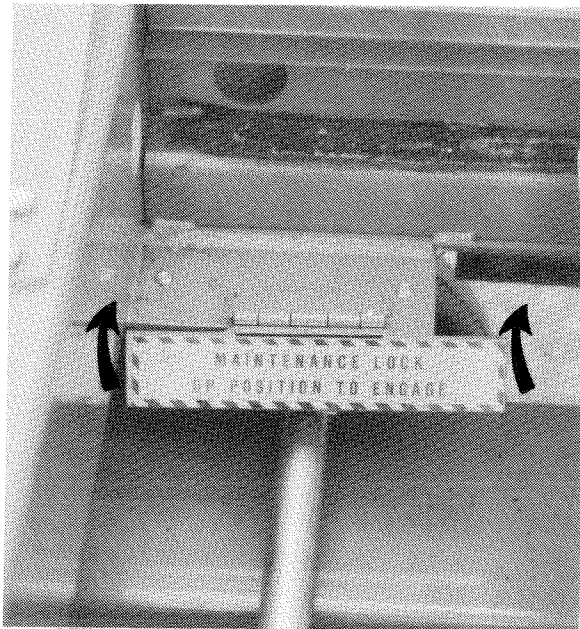

Figure 27. Engaging Maintenance Locks.
NEVER work through beams unless maintenance locks are engaged correctly; serious injury or death can result if locks are not correctly engaged, Figure 27.
2. Engage Maintenance Locks, Figure 27.